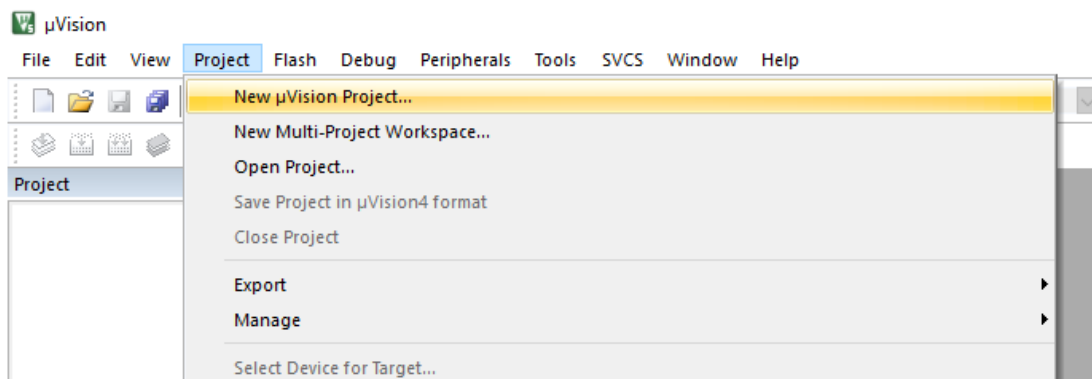

Figure 2: Create a new project.
2. Now open the Keil  $\mu$ Vision5 software, and select *Project*  $\rightarrow$  *New  $\mu$ Vision Project...* as shown in Figure 2.